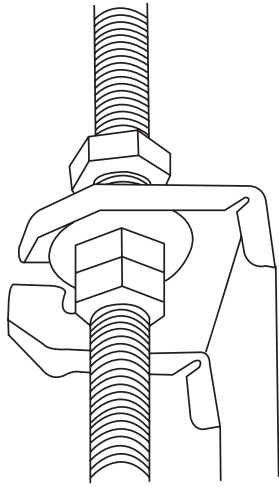

Fig. 4.4
5. Mount the indoor unit. You will need two people to lift and secure it. Insert suspension bolts into the unit's hanging holes. (See Fig. 4.4).